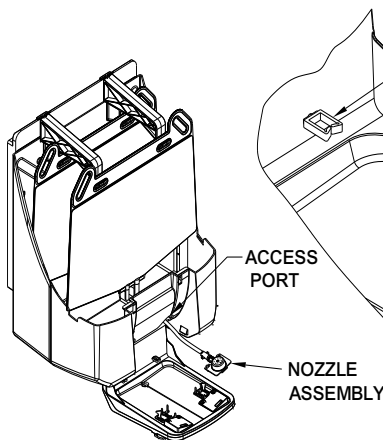

Figure 11
- A. With Lid Assembly removed and Tray Assembly in the open position, feed the first Nozzle Assembly (part of Fluid Cartridge Assembly) through the Access Port on the Housing Assembly. (Ref Figure 11)